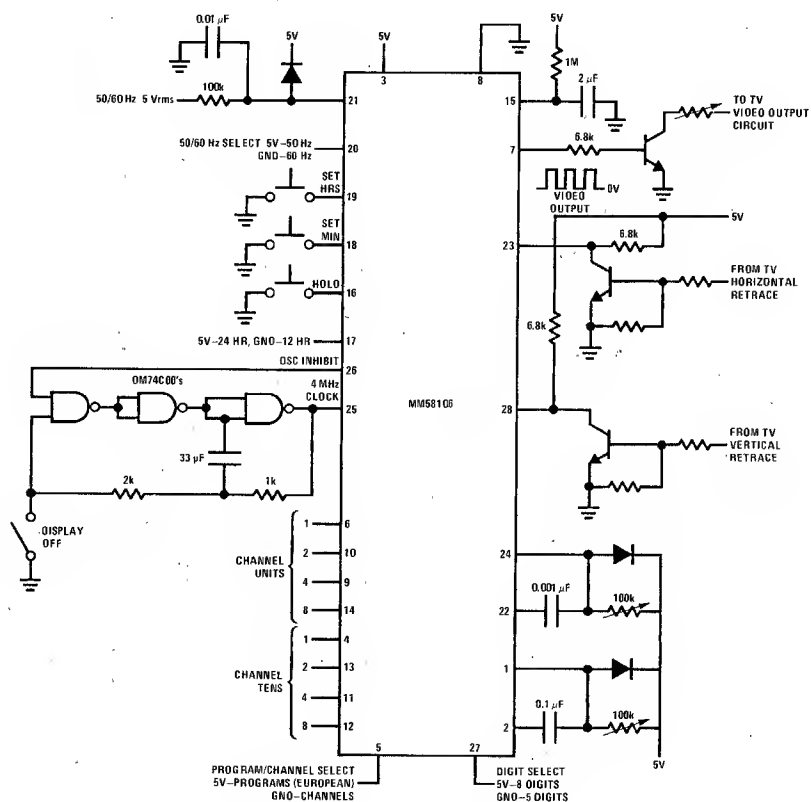

FIGURE 4.
**50 or 60 Hz Input:** This input has a shaping circuit which allows using a filtered sinewave input. A simple RC filter such as shown in *Figure 4* should be used to remove possible line voltage transients that could either cause the clock to gain time or damage the device. The input should swing between  $V_{SS}$  and  $V_{DD}$ . The shaper output drives a counter chain which performs the timekeeping function.
**Edge Detect:** On program change, the time and number will be displayed for a period depending on the external capacitor and resistor connected to the Edge Detect pin (*Figure 4*).